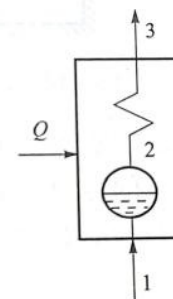

Figure4. A schematic diagram of a boiler
A schematic diagram of a boiler is shown in Figure 4[3]. It produces 15t superheated vapor of 1MPa, 350°C per hour. The feed water temperature is known to be 20 °C. The efficiency of boiler is 0.75. The calorific value of coal is 29400 kJ/kg, The quality of the wet vapor entering the superheater is 0.95. Determine: (1) The coal consumption. (2) The heat absorption capacity of wet vapor in Superheater[3].